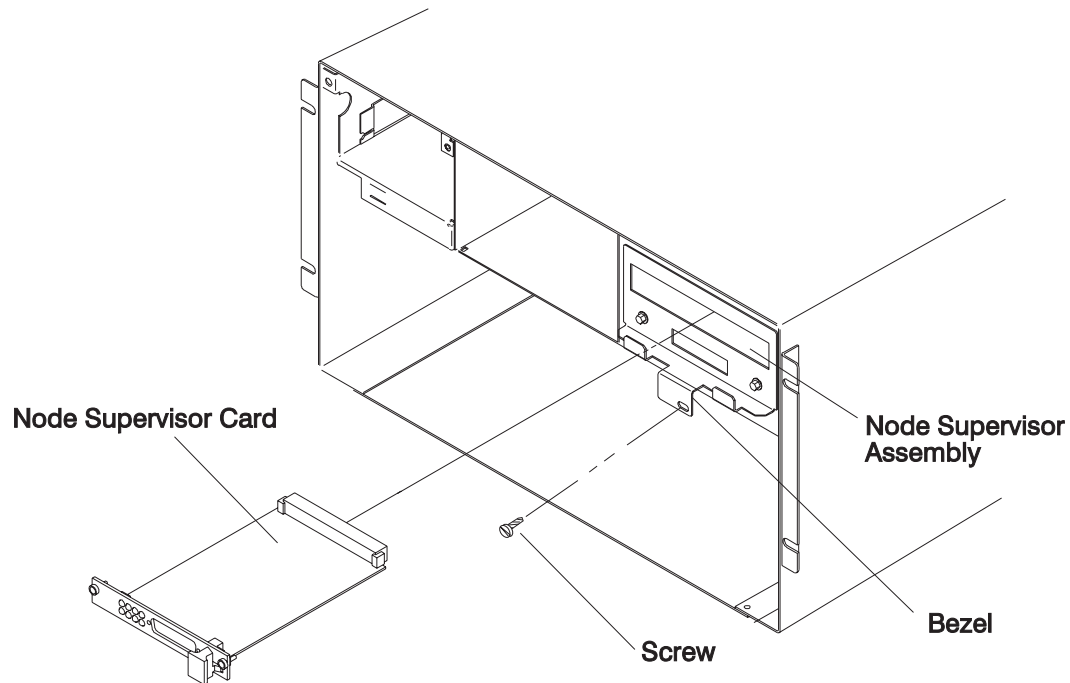

Figure 3-73. Removing the 604 or 604e High Node Supervisor Card
6. Remove the screw from the front of the supervisor assembly bezel (see Figure 3-73 on page 3-81).